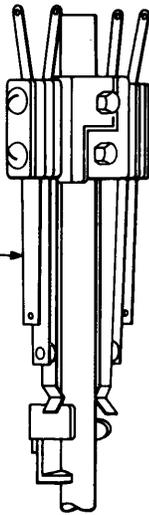

Fig. 10—Normal Post Spring Assembly Operated by Shaft Spring Bracket
4. For 197AF, 197AG, 197AH, 197AJ, 197BB, 197BN, 197BS, and D-91385 switches having normal post springs per Fig. 10.
5. For 197P, 197R, 197AD, 197AE, 197AY, 197BD, 197BP, and 197BR switches having normal post springs per Fig. 10.